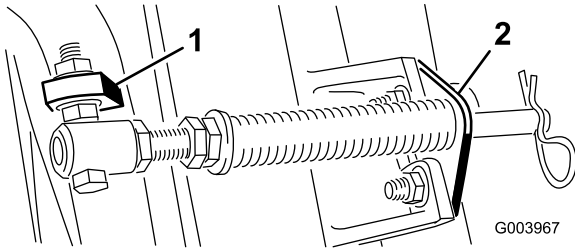

Figure 5
The bolt head is to be positioned to the outer side of the tab as shown in Figure 5.
D. Mount the rod bracket to the cutting-unit tabs with the carriage bolts and nuts (Figure 5).